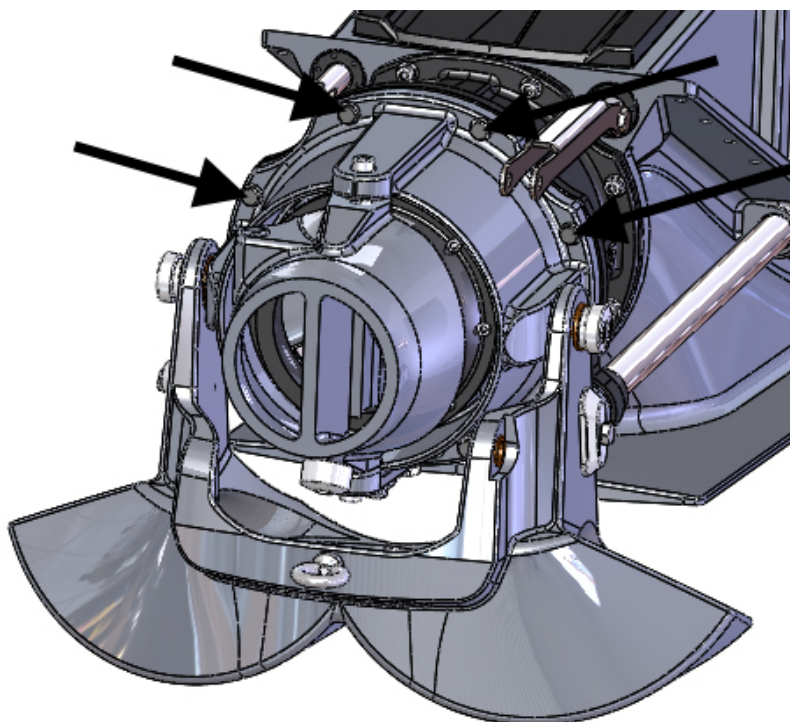

Figure 28. Stator fastening screws
2. Open the stator's fastening screws (figure 28).